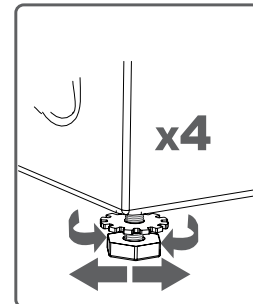

Fig4
- 4:**Adjust by rotating the feet upwards or downwards.(Fig 4)